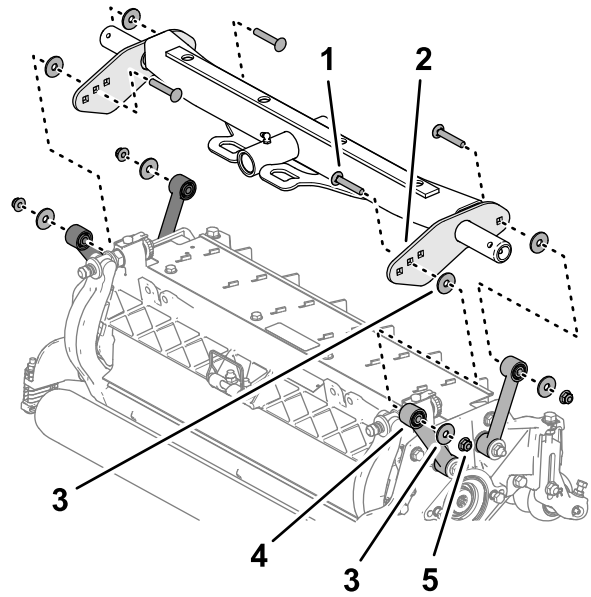

Figure 18
- Align a washer between the carrier plate and link (**Figure 18**), and loosely assemble the plates and spacer with a carriage bolt (3/8 x 2-1/4 inches), washer, and flange locknut (3/8 inch).